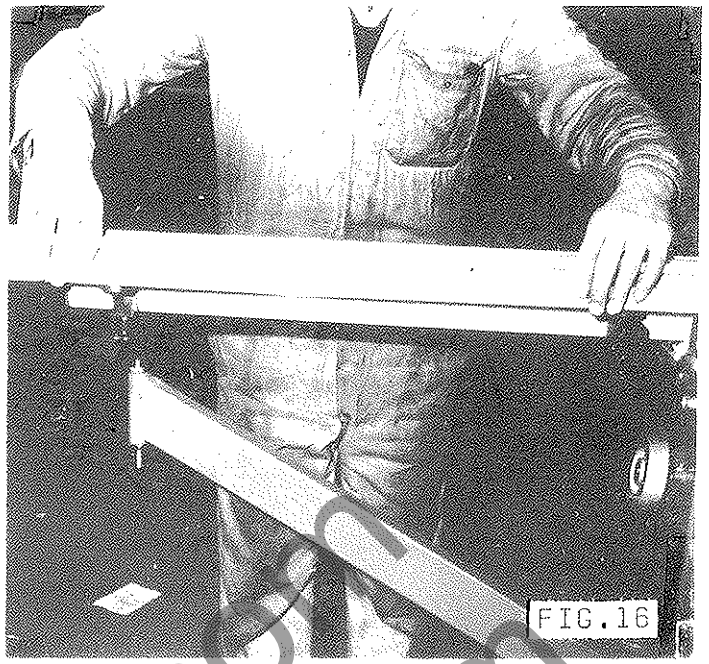

FIG. 16
- 5) Secure the 2 fence location support blocks to edge of sliding table FIG.16, then position fence on blocks as shown and secure by locking knobs.